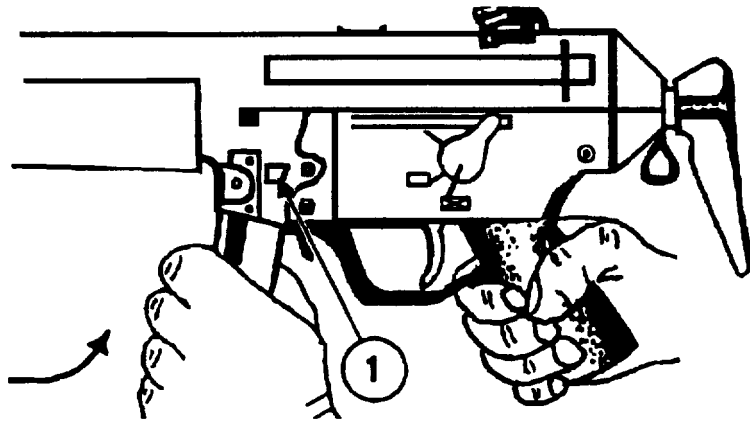

Figure 2-2. Inserting The Magazine
(1) Insert the magazine into the magazine well. Tug on the magazine to ensure it is locked in place. The magazine should lock with an audible click as it engages the magazine catch (1) Figure 2-2.
(2) With the selector lever on SAFE and the muzzle pointed in a safe direction, pull the charging handle 10 the rear and allow it to snap forward. The weapon loads and locks a cartridge into the chamber for firing.